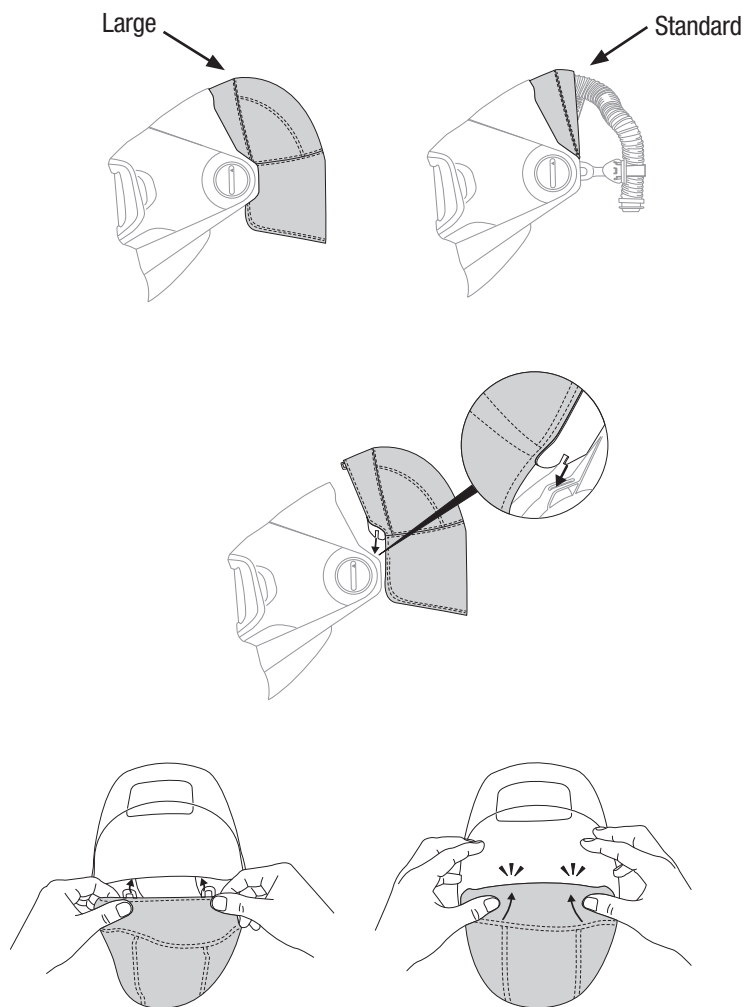

Fig. 28a
- There are two clips located at the crown of the head cover. Insert them into the clips on inside of the welding helmet. An audible “click” will indicate they are in place (Fig. 28a)